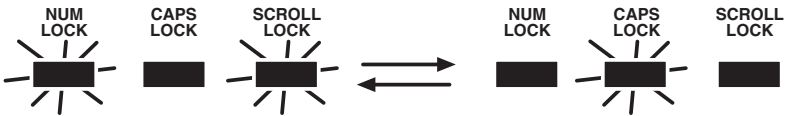

Figure 5-3. The password-lockout LED pattern.
- **Password-lockout indication—lightbar flashing.** As shown in Figure 5-3, while the Extender is locked and waiting for the user to enter a password (see **Sections 4.3** and **5.1**), it alternately lights the Num Lock/Scroll Lock LED pair and the Caps Lock LED on the keyboard. This pattern of flashing alternate LEDs is similar to that of the lights in the lightbar of a police car. Once you type in the correct password and press [Enter], these LEDs will stop flashing and return to their previous states.